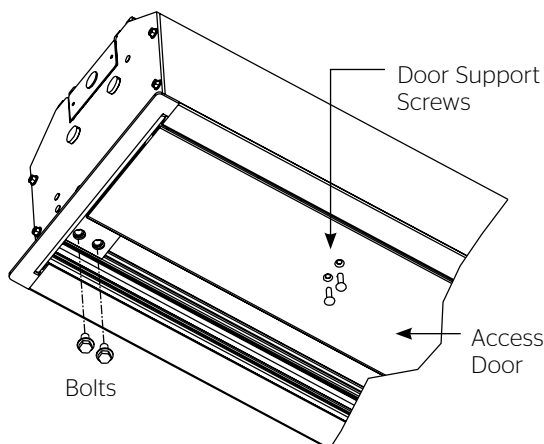

Figure 1
1. Remove the access door. First, remove the 2 bolts from each end with a 9/16" open wrench or socket driver. Next, use a 5/32" hex key to remove the two screws in the center of the access door. This will allow the door to drop open on the hinges (Figure 1).